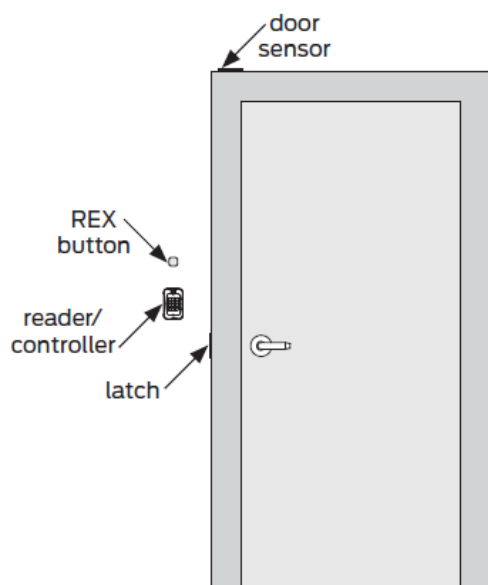

Figure 2.2: Typical configuration of equipment at the door
- Figure 2.2: Typical configuration of equipment at the door